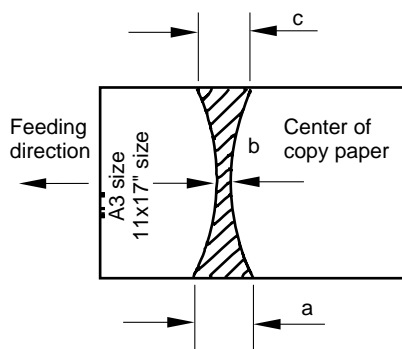

Figure 4-836
- 3) Measure the width of the area (Figure 4-836; where toner is shiny). (The solid will be In stripes.)